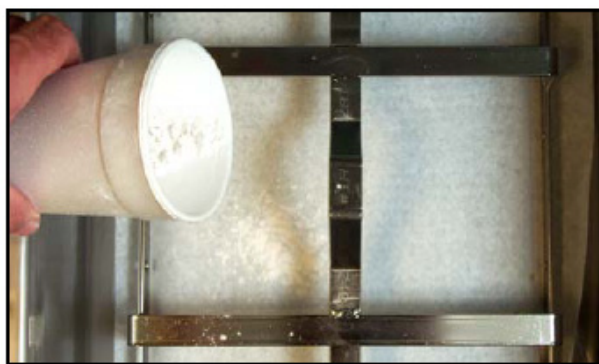

Figure 4
- When the hold-down ring is in position, if using filter paper, sprinkle one cup of filter powder evenly over the paper. (See Figure 4) 当压框到达适当位置后，如使用滤油纸，将1杯滤油粉均匀地倒在滤油纸上（见Figure 4）